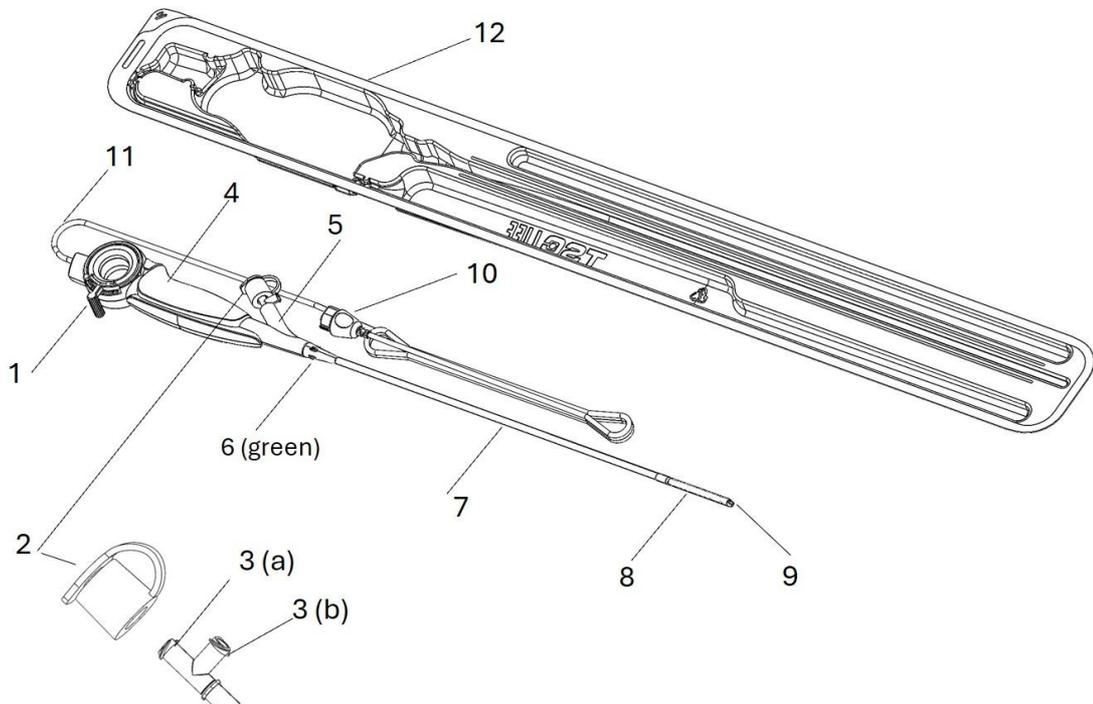

Figure 2. Cystoflex single use flexible cystoscope.
5. Connect the irrigation supply tube of a compatible irrigation source (syringe, gravity-fed bag) to the irrigation port on the Cystoflex handle (**Figure 2**). Ensure that there is no leakage, that the biopsy valve is closed and that the water is discharging from the distal tip.